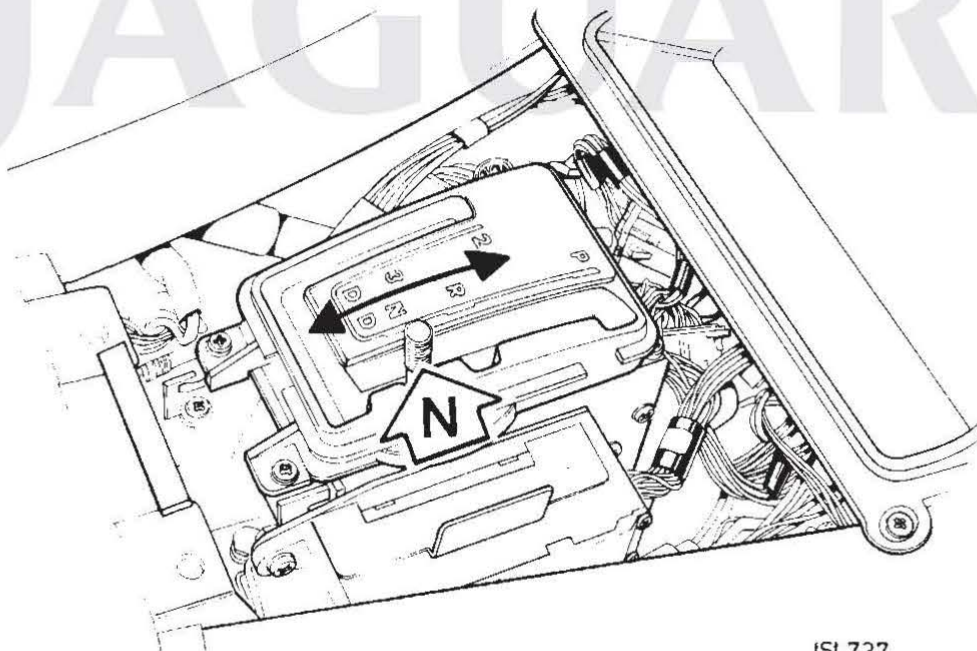

FIG 3
- 7 Locate gear selector lever module onto housing Fig 3.